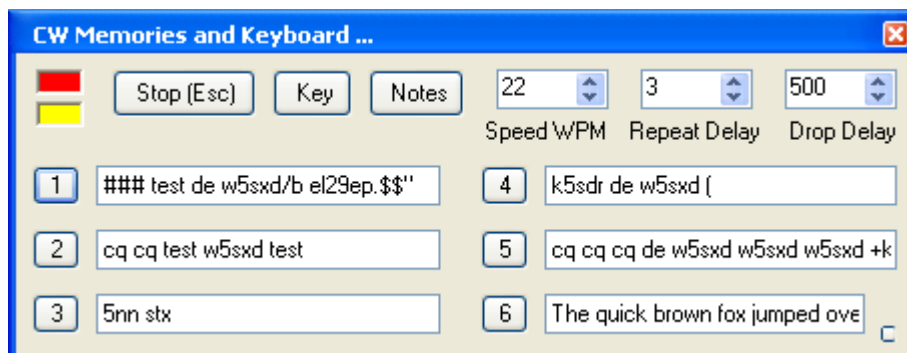

Figure 38: CWX Form
If you wish to send CW automatically, click on **CWX (36)** on the Front Console menu to open the CWX Form shown in Figure 38 below. (Refer to the CWX Form section on page 95 for more detail on how to use this form).